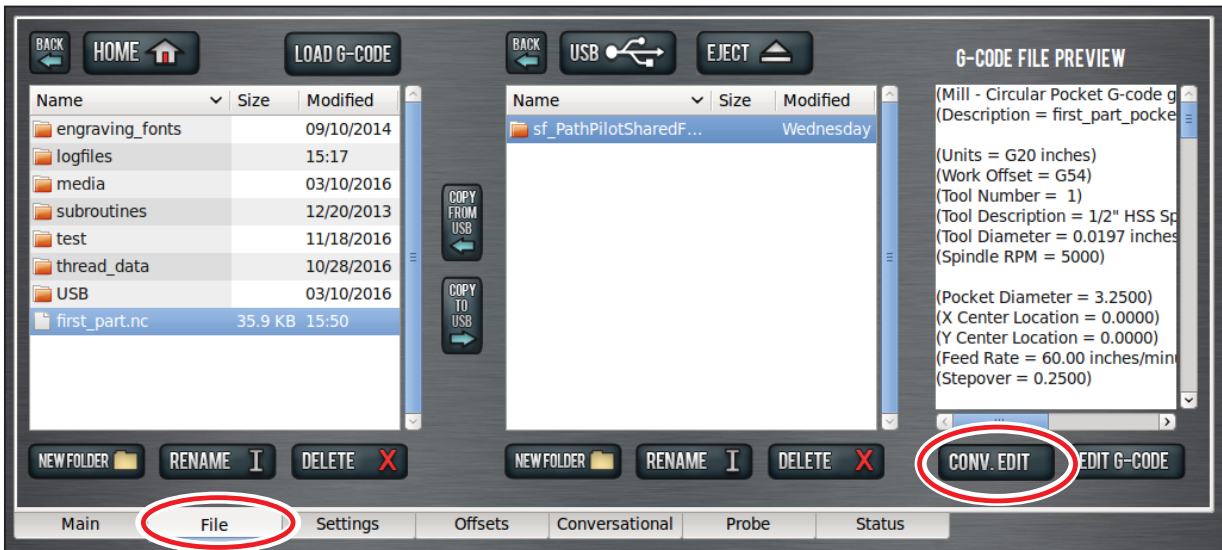

Figure 1
1. From the *File* tab, select the file and click *Conv. Edit* (see **Figure 1**).